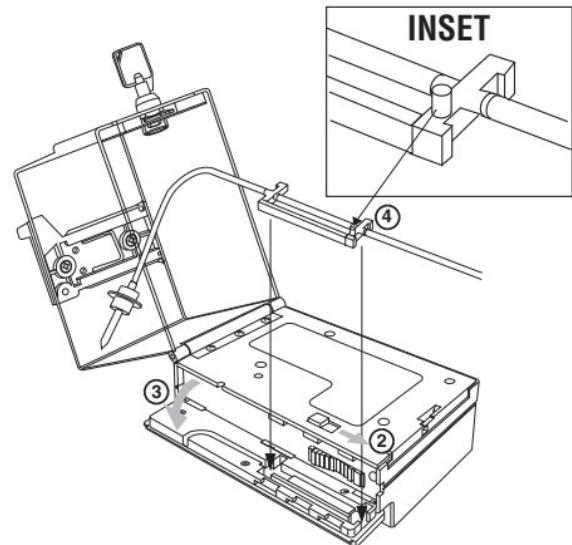
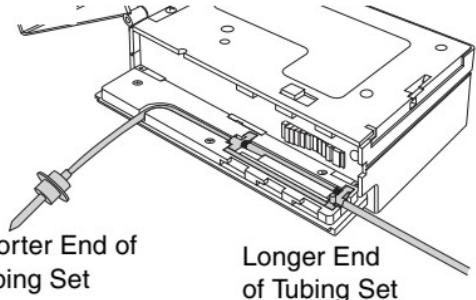

Figure 3-7 Load Tubing Set
Figure 3-8 Tubing Set Correctly Positioned
CAUTION Ensure that the set is oriented as shown in Figure 3-7 and Figure 3-8. The pump will not work if the sensor tab is missing or misaligned.
5. Ensure that the set's longer tubing segment exits the side of the pump. The shorter segment must follow the curved groove, exiting behind the pump for attachment to the bag (see Figure 3-8).